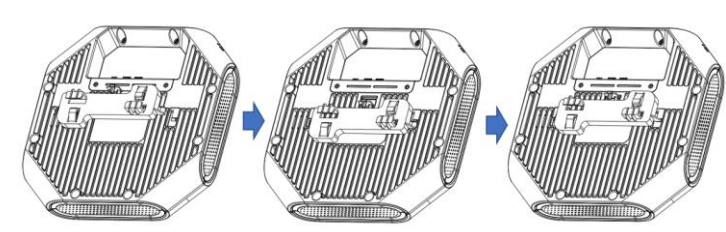

Figure 4: Attaching the Ceiling Mounting Bracket
- Place the bracket against the back of the AP, insert by aligning the slot on the backside with the hanging feet on both sides of the bracket (see Figure 4).
- Push the bracket along the direction of the arrow until it locks in the slot (see Figure 4).